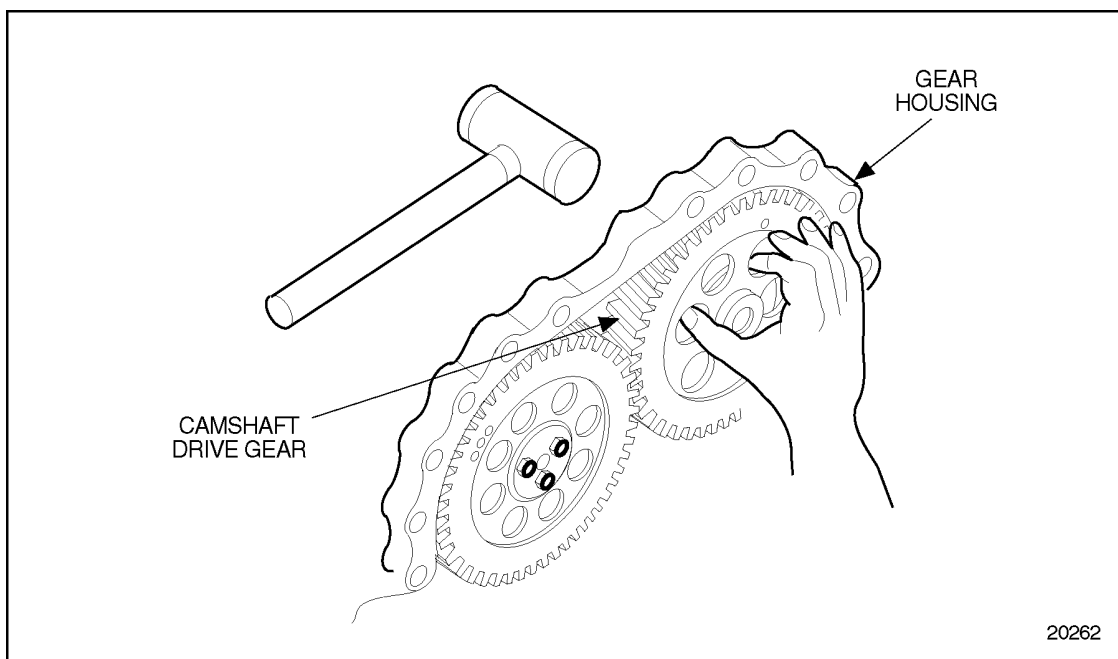

Figure 1-329 Removing Camshaft Thrust Plate Assembly
6. Using a fiber mallet or plastic hammer, tap the rear face of the camshaft thrust plate forward until it is free of the gear case. See Figure 1-329.